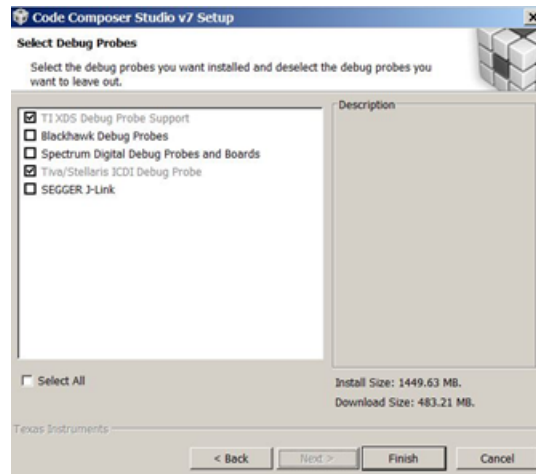

Figure 31. CCS Setup – XDS Installation
- To use a debug probe, select TI XDS Debug Probe Support as shown in Figure 31.